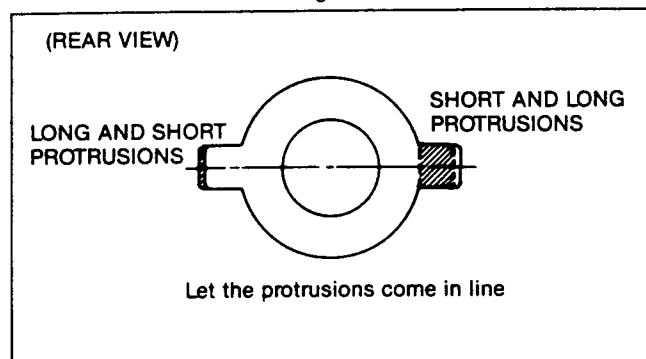

Fig. B-2
2. Let the purity tab come in line horizontally as is shown in Fig. B-2. A long tab should be in the same direction as the other short tab.
2. Adjust the convergence around the edges of the picture tube by tilting the yoke, up-down and left-right, and temporarily in-stall one wedge at the top of the yoke. (Fig. B-2, 8, 9)